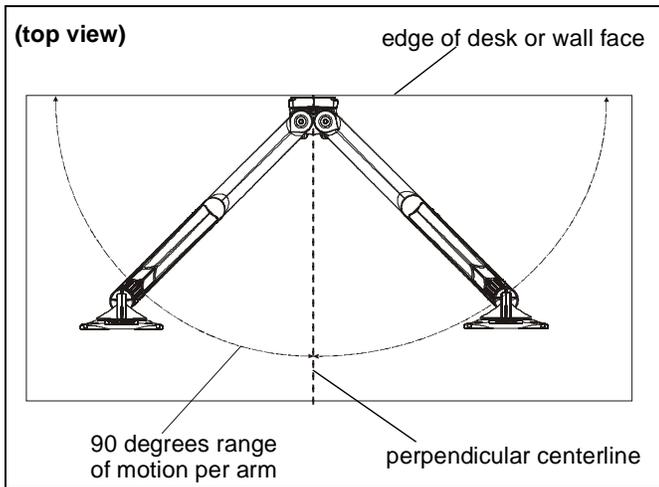

Figure 7
1. Adjust arm angles as desired within a 90 degree range from the wall and a perpendicular centerline of mount. (See Figure 7)